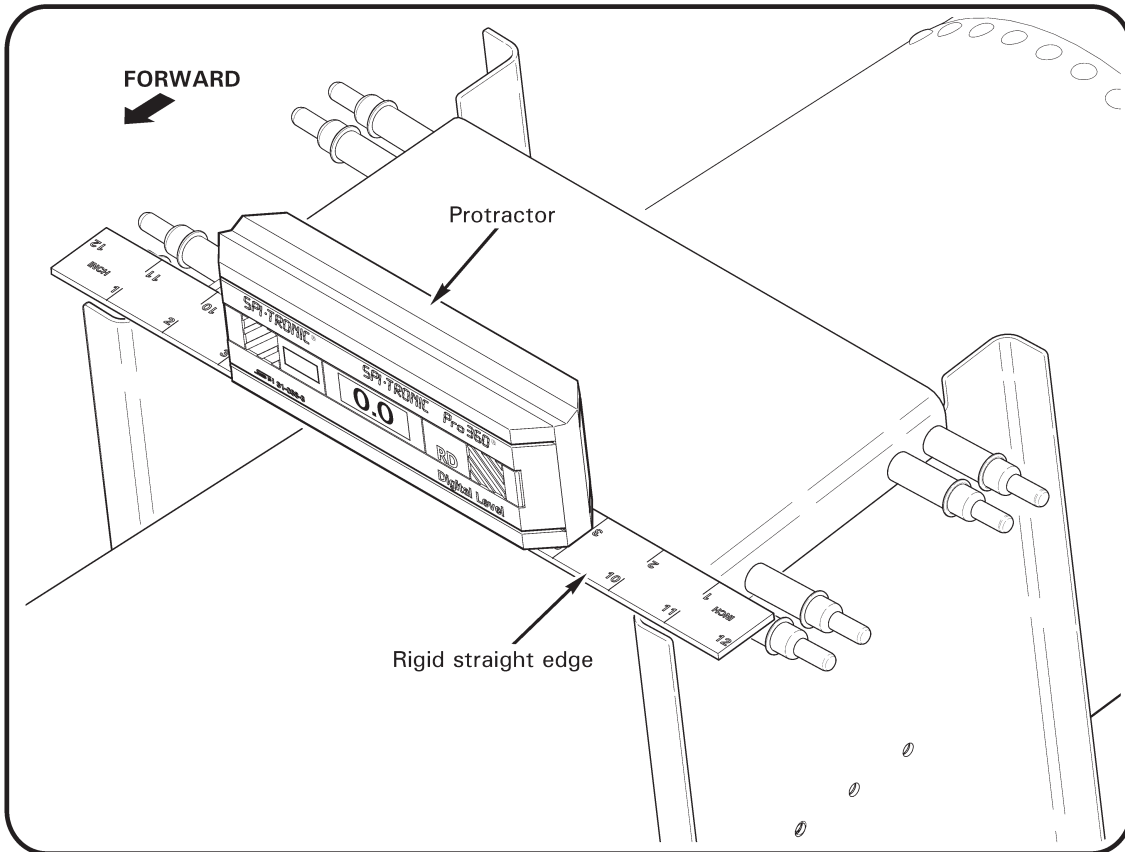

FIGURE 4 Leveling MT830 Locator tool
6. Refer to Figure 4. Place protractor laterally across forward posts of MT830-1 bracket as shown and verify locator tool is level (use straight edge atop posts if protractor cannot contact both posts). As required, rotate locator tool on tailcone by lightly tapping with a rubber or plastic mallet, until protractor indicates level/zero. Repeat procedure with protractor placed laterally across aft posts.